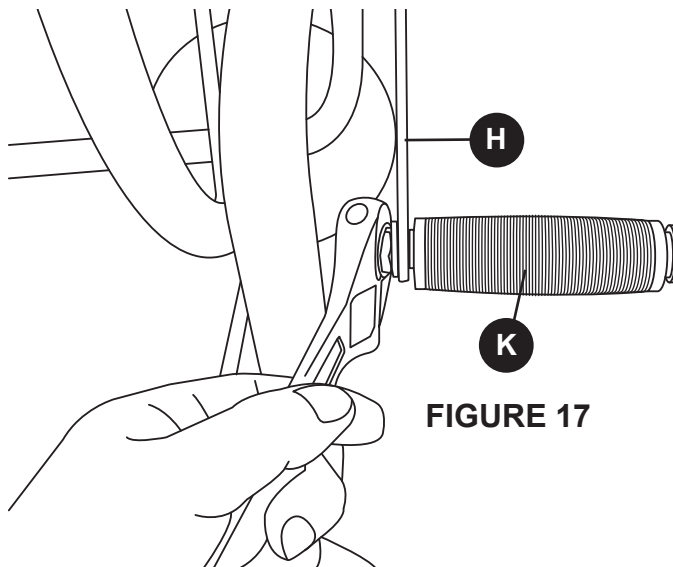

FIGURE 17
17. Using an adjustable wrench attach the rubber handle and bolt (K) to the end of the crank handle (H) and tighten with a adjustable wrench. **See Figure 17**